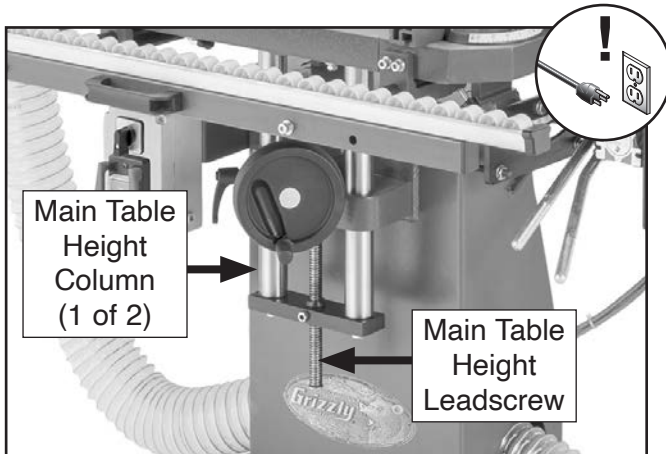

Figure 60. Location of main table height leadscrew and columns.
3. Clean main table height leadscrew and columns (see **Figure 60**) with rags, brush, and mineral spirits to remove grime and old lubrication.